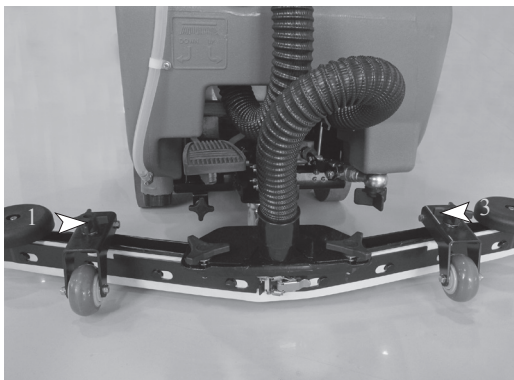

Figure 45
- Adjust the regulating nut as indicated by arrow 3 in the following diagram if the middle of squeegee blade contacts the ground well but there is a small gap between the right side of blade and the ground. Rotate the regulating nut clockwise to lift the right squeegee blade; counter-clockwise rotate the regulating nut to lower the right squeegee blade. Adjust the squeegee blade to an optimal status according to actual demands (Figure 45).